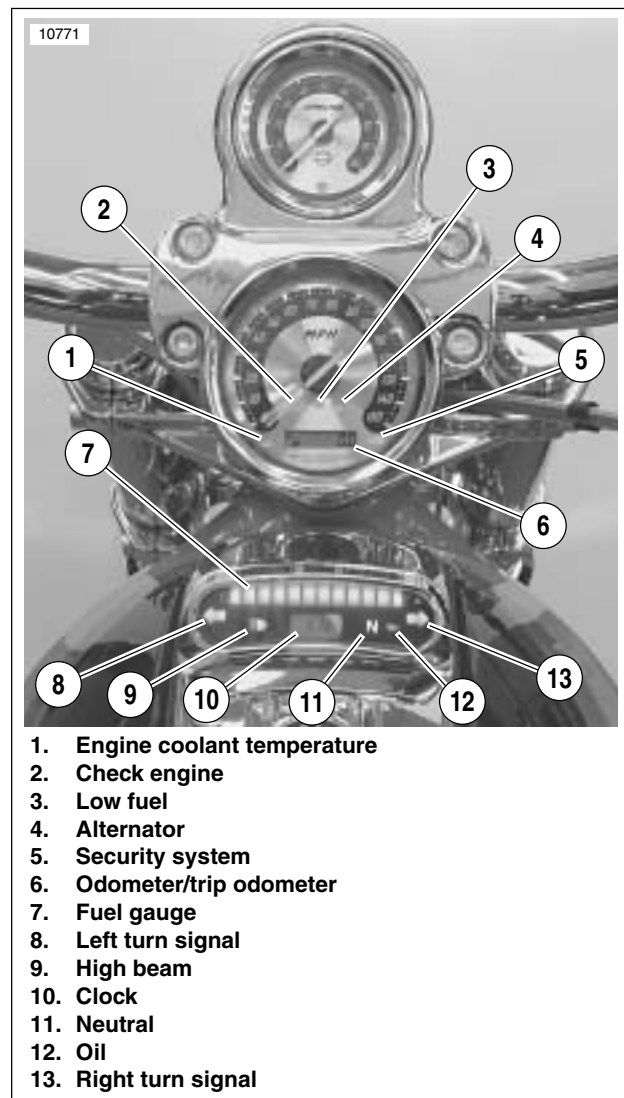

Figure 7-2. VRSCSE Indicator Lamps and Displays
1. See Figure 7-2. View indicator lamps and displays and turn ignition switch to "IGNITION" position. Check that the oil pressure indicator lamp (12) turns on (before engine is started). The Check Engine indicator lamp (2) will illuminate for about four seconds and then go off. The security lamp (5) will illuminate for about four seconds and then go off. The Battery icon (4) will illuminate to indicate low voltage. Fuel gauge (7) should also indicate fuel tank level. Engine Coolant temperature lamp (1) will illuminate to verify bulb filament and then go off.